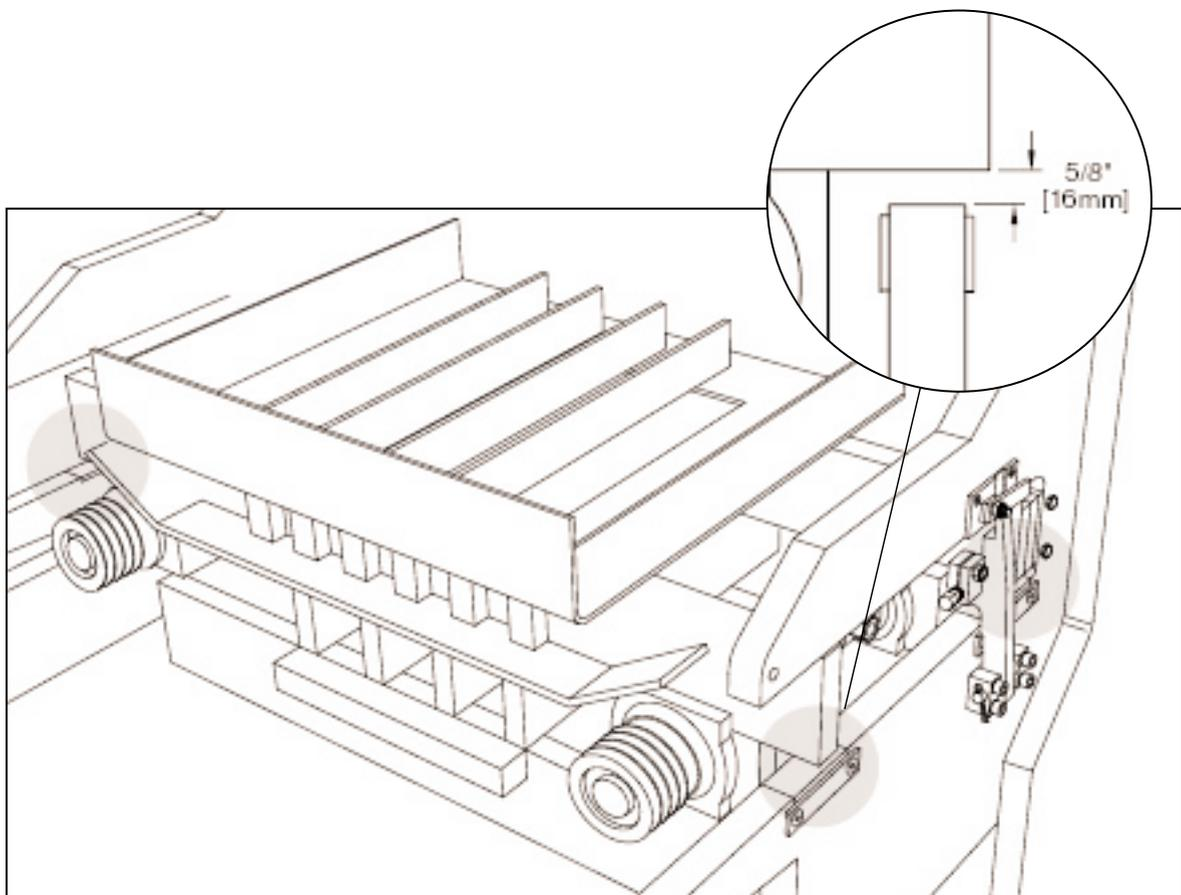

Figure 5.17 SIDE TO SIDE DIMENSION (3 of the 4 check points shown).
- 5.5.3 Check level of mold from side to side and from front to back until bottoms of mold side bars are approximately 5/8” [16mm] above mold throat plates at all four check points (see figure 5.17).
- 5.5.7 Check level of mold from side to side and from front to back until bottoms of mold side bars are 5/8” [16mm] above mold throat plates at all four check points (see figure 5.17).